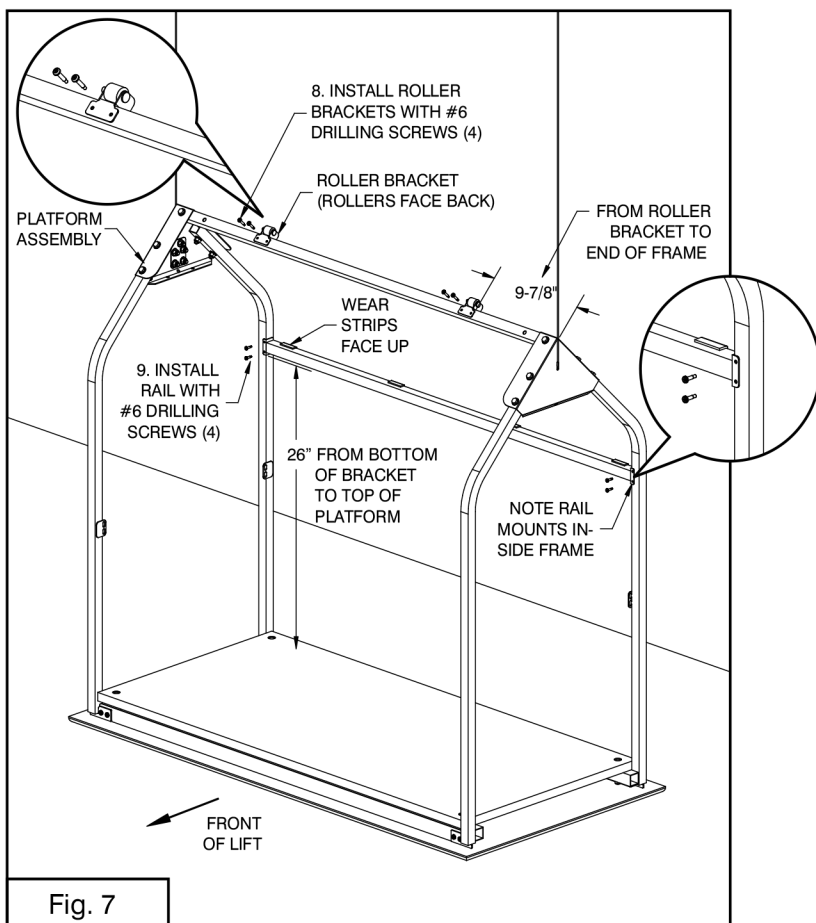

Fig. 7
Step 8. Measure 9-7/8" from the outside of the lifting platform frame at each end and make a mark on the top rail (Fig. 7). Align the outer edge of each roller bracket to the mark as shown. Install the roller brackets onto the top rail using #6 drill-point screws (4) as shown in Fig. 7 and Fig. 7 Inset. Please note that the roller faces the back side (shutter side) of the lift.
Step 9. Measure 26" from the platform surface up the inside of each back leg and make a mark as shown in Fig. 7. Mark both back legs. Position the shutter rail between the legs with the flanges facing forward (Fig. 7 Inset) and the bottom edges aligned to your marks. Secure the rail with tape while you install the #6 drill-point screws (4) thru the holes in the rail brackets and into the legs.
1. When the lifting platform is in the raised position, the shutter door leans against the rail on the lifting platform frame (Fig. 7). The stop bracket (Fig. 5 Inset) keeps the shutter door from tipping over backwards.